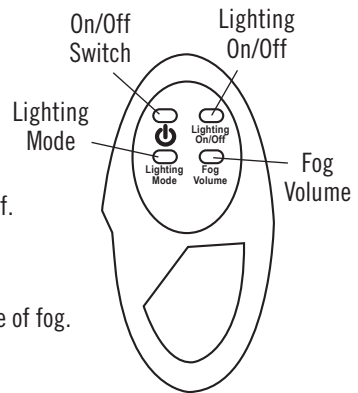

Figure 2
2.3 Remote Emitter (Refer to Fig. 2)